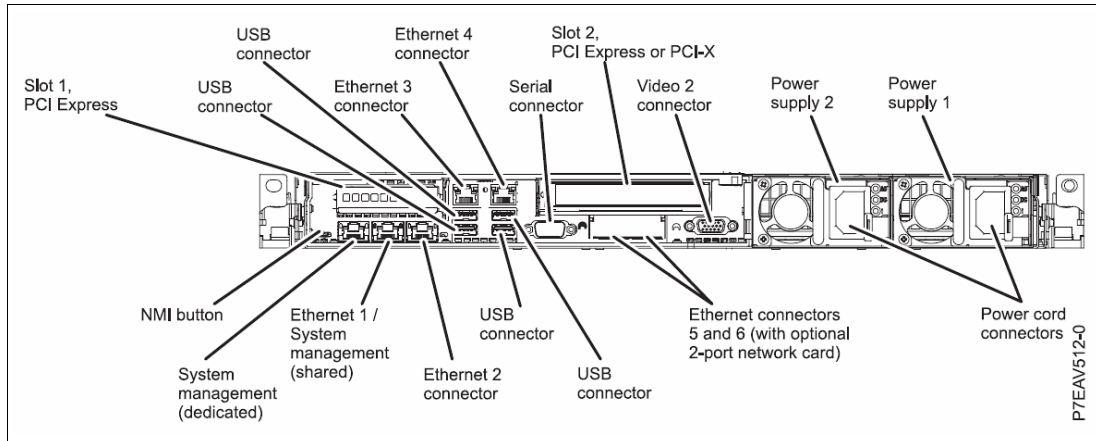

Figure 3-1 Rear view of a rack-mounted HMC 7042-CR7
- A rack-mounted HMC 7042-CR7 (Figure 3-1)